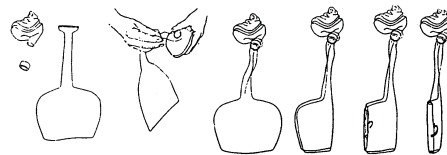

Fig. 3
- not to twist neck of bag. (Fig. 3)